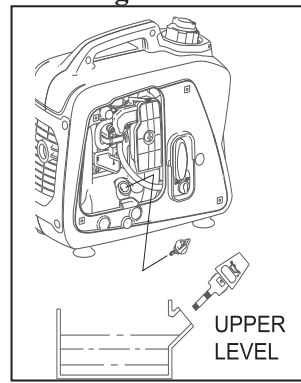

Fig. 9-2
- Remove the oil cap (Oil-Sticker). (See Fig. 9-2)
- Fill engine oil to the upper level. (See Fig. 9-2)